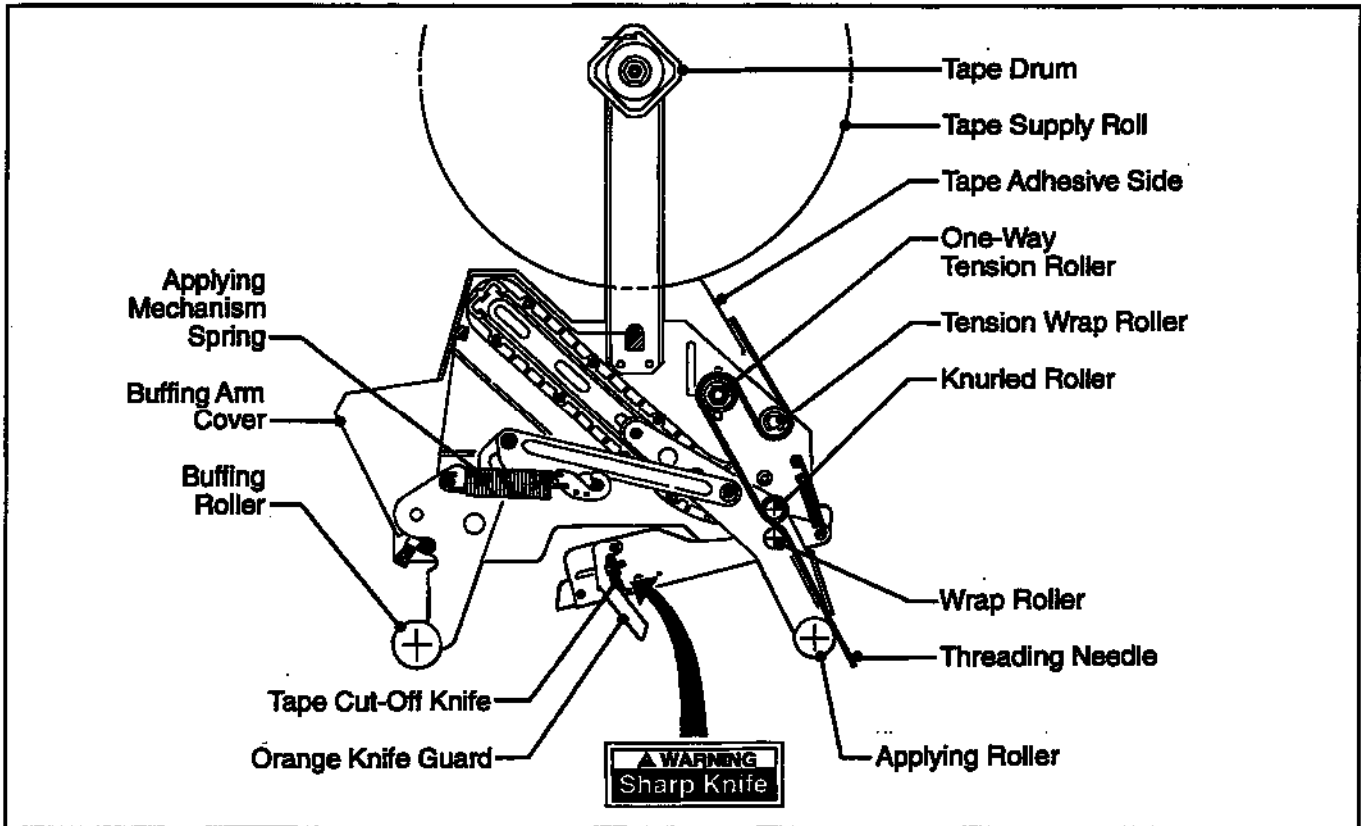

Figure 3-1 – Taping Head Components/Threading Diagram, Upper Head (Left Side View)
Before working with the taping heads or loading/threading tape, refer to Figures 3-1 and 3-2 (page 6) to identify the knife location. **Keep hands out of these areas except as necessary to service the taping heads or to load/thread tape.**
WARNING – Taping Heads are equipped with an extremely sharp tape cut-off knife. The knife is located under the orange knife guard which has the "Warning – Sharp Knife" label. Before working with the taping heads or loading tape, refer to Figures 3-1 and 3-2 on page 6 and identify the knife location. Keep hands out of these areas except as necessary to service the taping heads.
3. Taping heads are equipped with an extremely sharp cut-off knife. Before working with the taping heads or attempting to load/thread tape, refer to Figures 3-1 and 3-2 and identify the knife location. Keep hands out of these areas except as necessary to service the taping heads.
The applying mechanism spring, shown in Figures 3-1 and 3-2, controls applying and buffing roller pressure on the box and returns the mechanism to the reset position. The spring pressure is pre-set, as shown in Figure 5-3A for normal operation, but is adjustable.